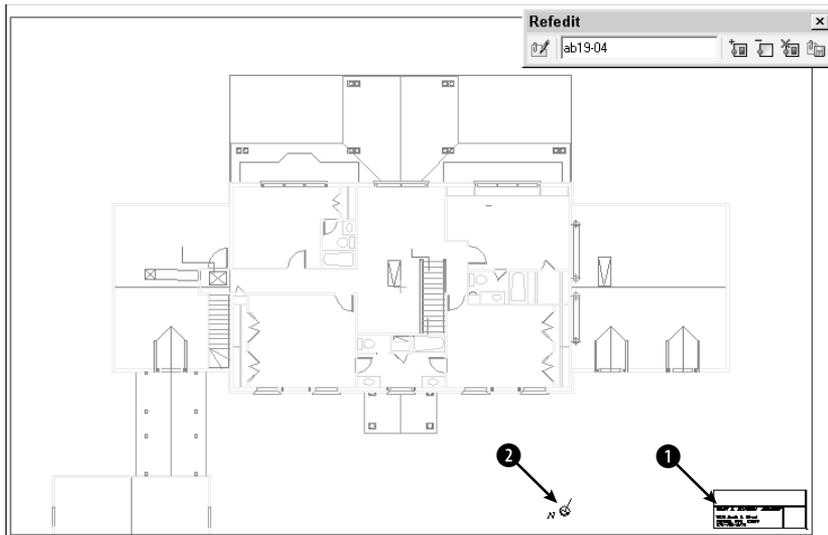

Figure 19-7: The title block is an xref in the drawing of the floor plan.
4. Double-click the title block. The Reference Edit dialog box opens. Choose `ab19-04.dwg`. It is displayed in the preview box. Click OK. The Refedit toolbar opens. You can now edit the xref. Your screen should look like Figure 19-7.
6. Choose **Draw** ⇨ **Text** ⇨ **Single Line Text**. At the **Specify start point of text or [Justify/Style]:** prompt, pick ① in Figure 19-7. At the **Specify height <0'-0 3/16">**: prompt, type **10** ↵. Press **Enter** again for the rotation angle.
9. Select the letter **N** and arrow symbol at ② in Figure 19-7. To transfer these objects from the xref to the floor plan drawing, choose **Remove Objects from Working Set** from the Refedit toolbar.